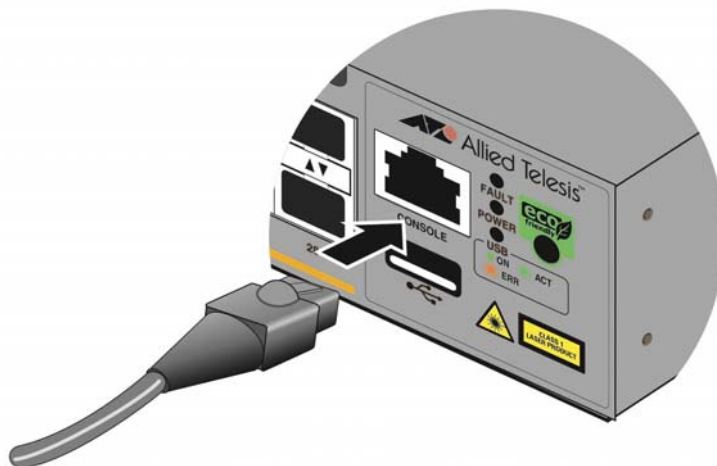

Figure 39. Connecting the Management Cable to the Console RS-232 Port
1. Connect the RJ-45 end of the management card included with the switch to the Console RS-232 port on the management panel. Refer to Figure 39.